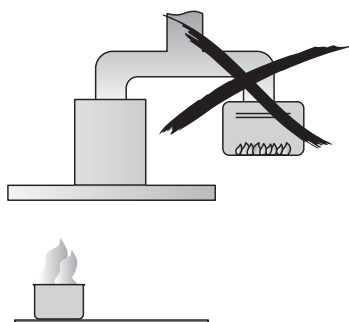

Fig. 1
- ⊘ The exhaust from the canopy rangehood must not be discharged into any heating flue, which may carry combustion products from other sources. (Fig. 1)